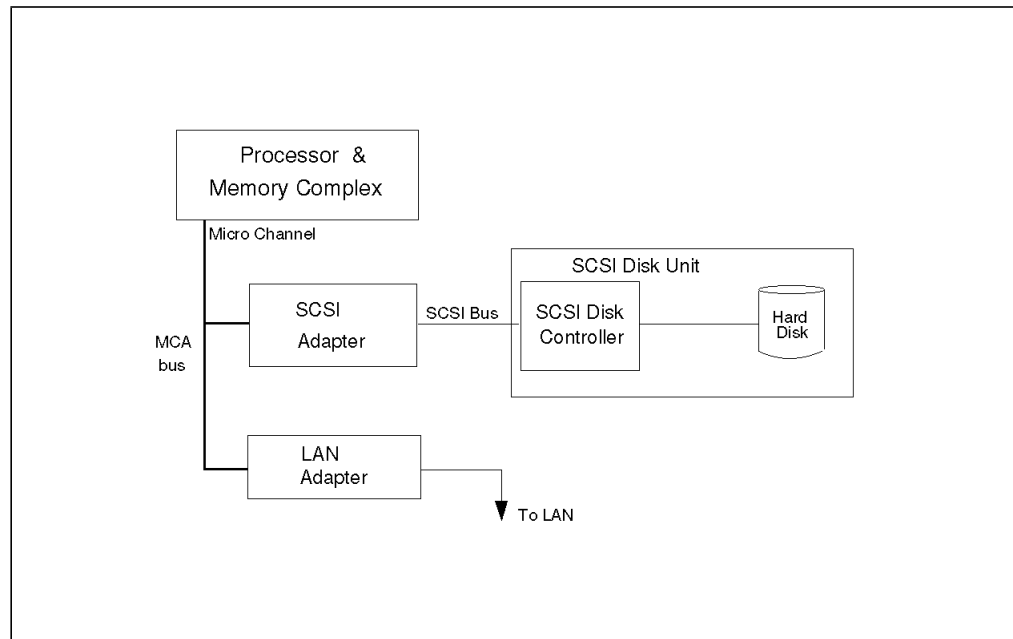

Figure 10. SCSI Disk Interface
4. **Small Computer System Interface (SCSI)** - The SCSI interface is a high speed parallel interface that transfers eight bits at a time rather than one bit at a time for the ST506 and ESDI serial interfaces. Thus data transfer rates for SCSI are measured in megabytes versus megabits and are considerably faster than those of the serial interfaces. SCSI is also a bus level interface which makes it very flexible. Since the commands are interpreted by the device and not the SCSI host bus adapter, new devices (with new commands) can be implemented and used with standard SCSI adapters. The device driver then interacts with the device via the new commands. An example of this would be a CD-ROM device sharing the same adapter as a hard disk drive. Figure 10 shows a SCSI subsystem with a host bus adapter attached to an integrated controller and hard disk.